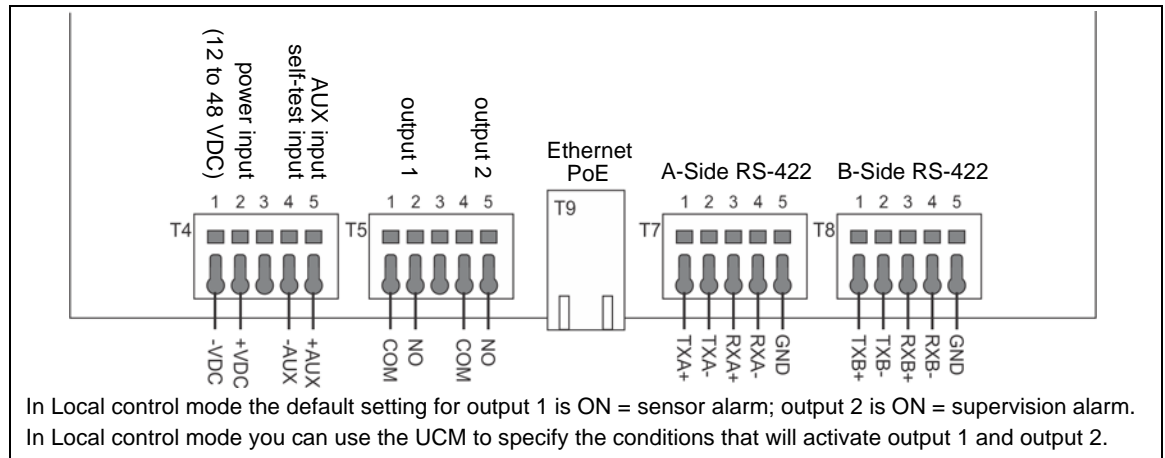

Figure 12 Transmitter/receiver wiring connections
T5 connects to output 1 and output 2, and T4 connects to the auxiliary (AUX) or self-test input (see Figure 12 for connection details).
3. Make the wiring connections on the appropriate terminals (see Figure 12).
- In a weatherproof junction box near each BR100 unit, splice the power cable to a lighter gauge pigtail. Connect the negative lead to T4-1 (-) and connect the positive lead to T4-2 (+) (see Figure 12).
To use a local DC power supply, the power supply must be outdoor rated and installed in its own weatherproof enclosure. The local power supply can be mounted on the same post as the BR100 unit to keep the wire run to a minimum. Connect the negative lead to T4-1 (-) and connect the positive lead to T4-2 (+) (see Figure 12).